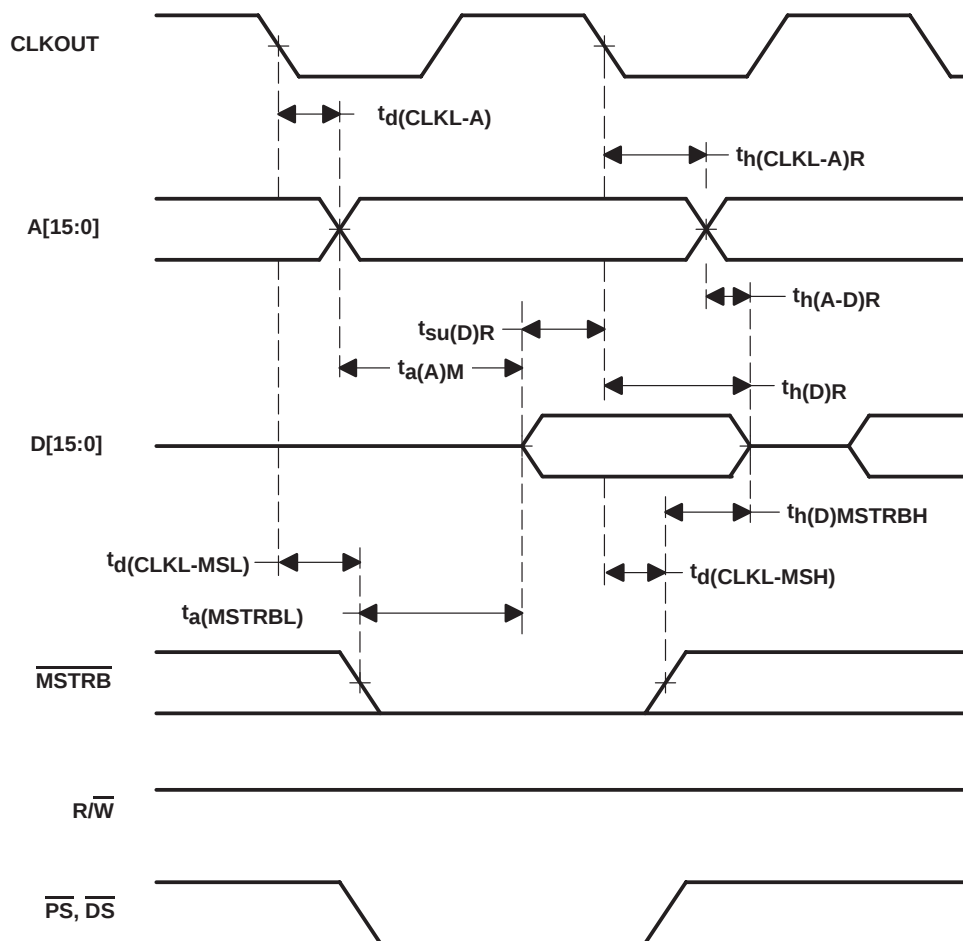

Figure 16. Memory Read ( $\overline{\text{MSTRB}} = 0$ )
**switching characteristics over recommended operating conditions for a memory read (MSTRB = 0)†‡ (see Figure 16)**
timing requirements for a memory read ( $\overline{\text{MSTRB}} = 0$ ) [ $H = 0.5 t_{c(CO)}$ ]†‡ (see Figure 16)
switching characteristics over recommended operating conditions for a parallel I/O port read (IOSTRB†‡ (see Figure 16)